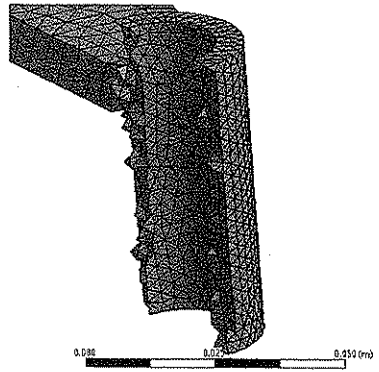

Figure 7-55 Partial view of the model displaying whole elements along the section plane
- 13. From the **Section Planes** window, choose the **Show Whole Elements** button; whole elements are displayed in the model, as shown in Figure 7-55.